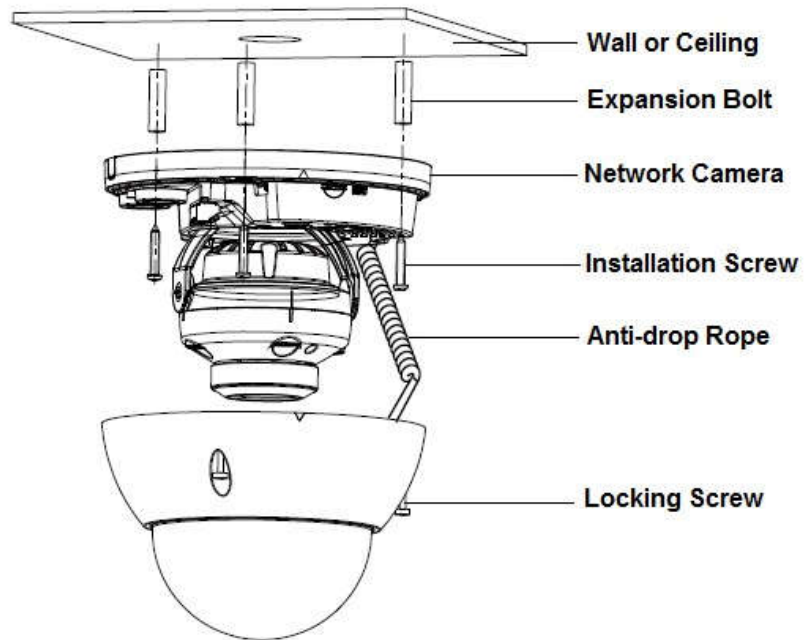
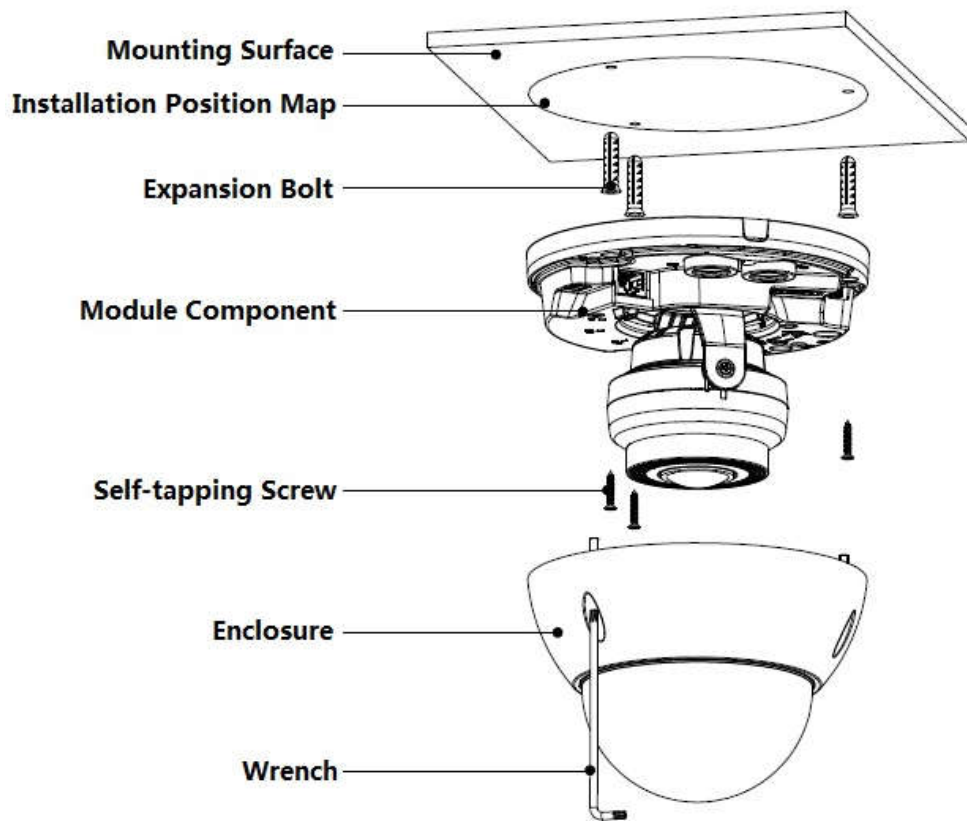

Figure 2-1
Figure 2-2
- The following installation figures are for reference only; please refer to Figure 2-1 or Figure 2-2 according to the actual product.